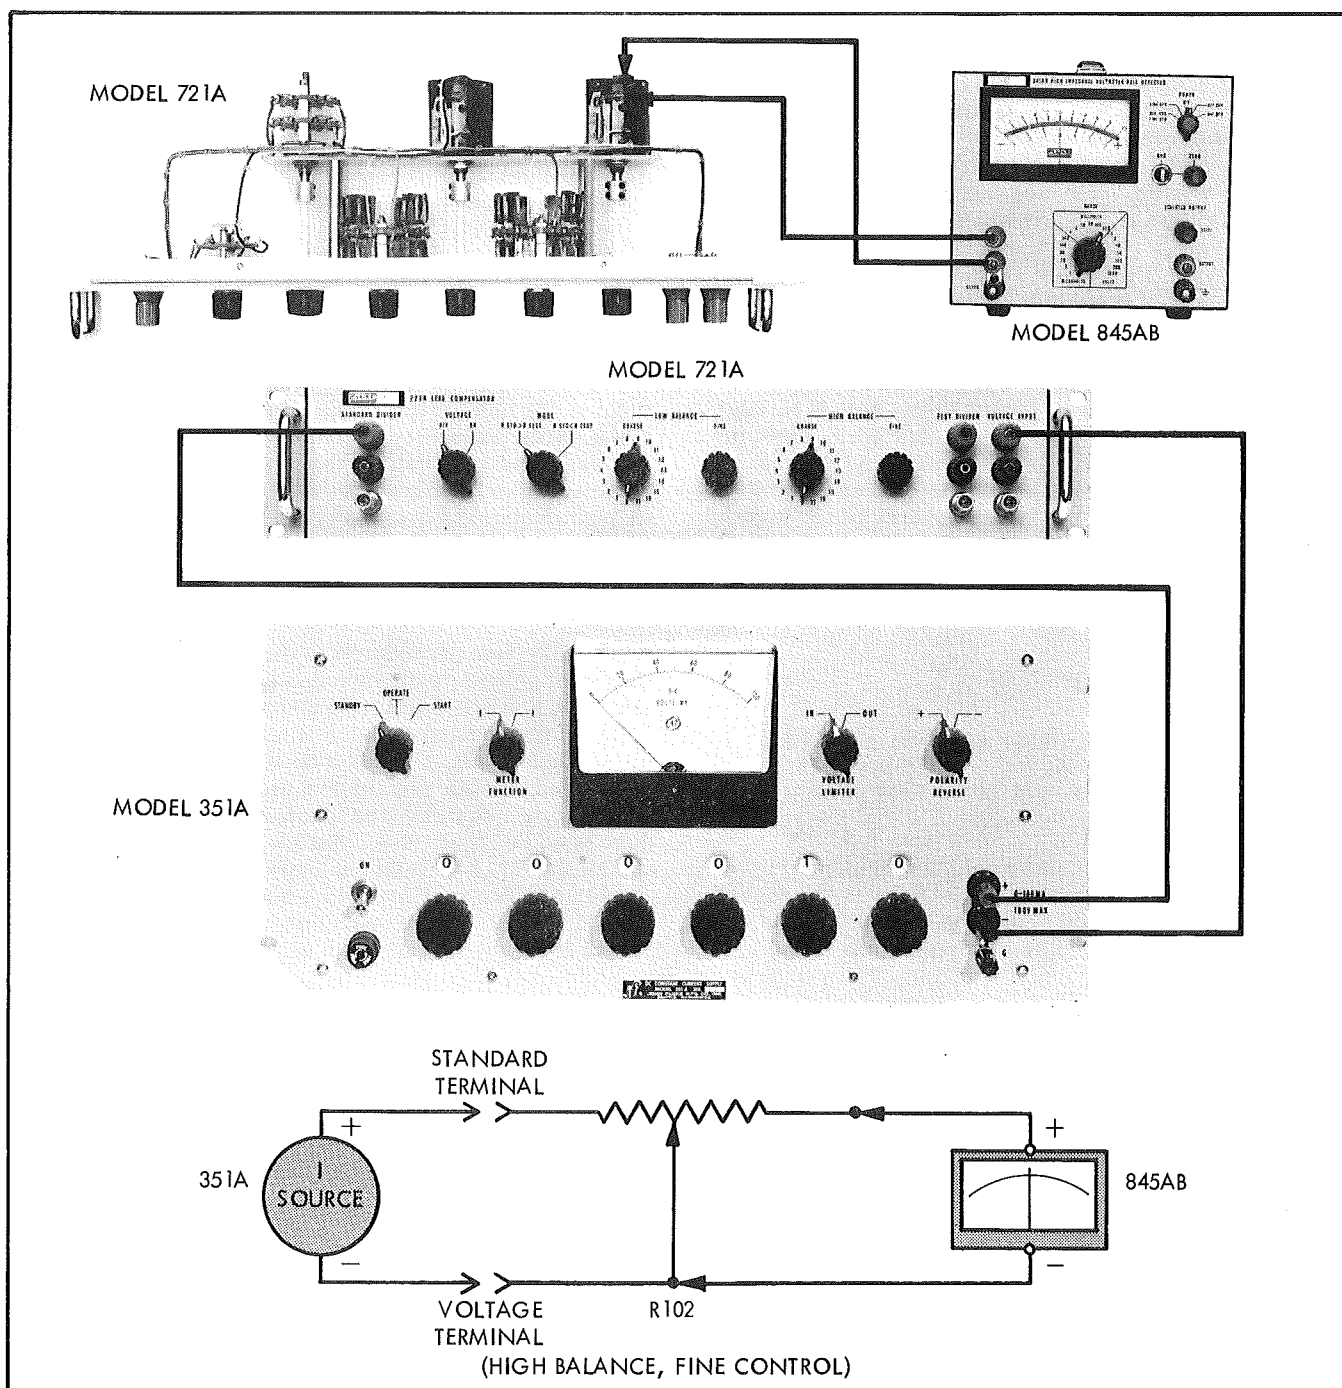

Figure 4-2. HIGH BALANCE CONTACT RESISTANCE
4-11. The purpose of this test is to determine if the contact resistances of the HIGH and LOW BALANCE potentiometers (FINE controls) are within optimum limits. The simplified schematic diagram of Figure 4-2 illustrates how this is accomplished. Remove the dust cover from the Model 721A and perform the following steps:
b. Adjust the Model 351A for a constant current output of 10 milliamperes. Connect the Model 351A Constant Current Source and the Model 845AB High Impedance Voltmeter to the Model 721A as illustrated in Figure 4-2.